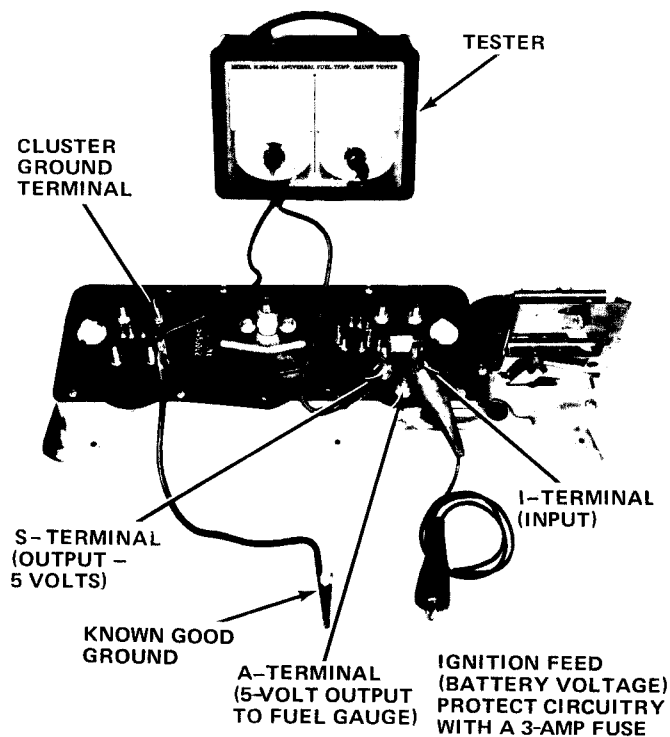

Fig. 3-69 Testing Temperature Gauge—Cherokee-Wagoneer-Truck
(1) Disconnect battery negative cable.
(2) Remove instrument cluster and disconnect all electrical connections.
(3) Connect a jumper wire from cluster ground terminal to known good ground (fig. 3-69).
TEST RESULTS With Tester Connected as Shown in Figure 3-69	POSSIBLE LOCATION OF TROUBLE